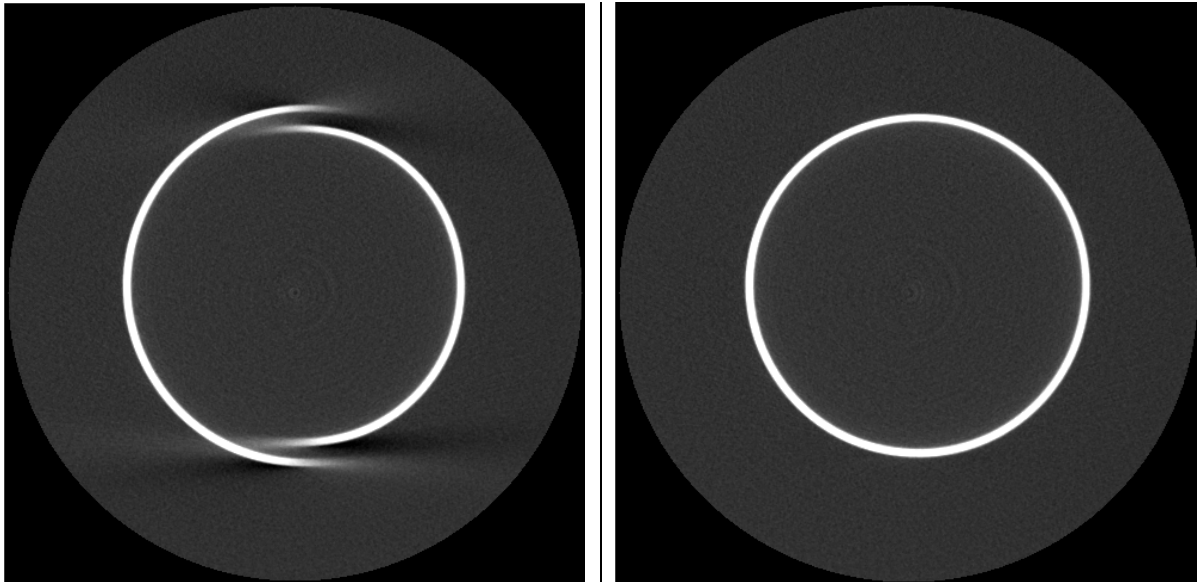

Figure 9-21
7. Among the files named OFFSET_HORIZONTAL_Z=000 look for the file in which the reconstructed circle is the most continuous (Figure 9-21 - right image) and write down the corresponding value OFFSET_HORIZONTAL_UM contained in the name of the file.